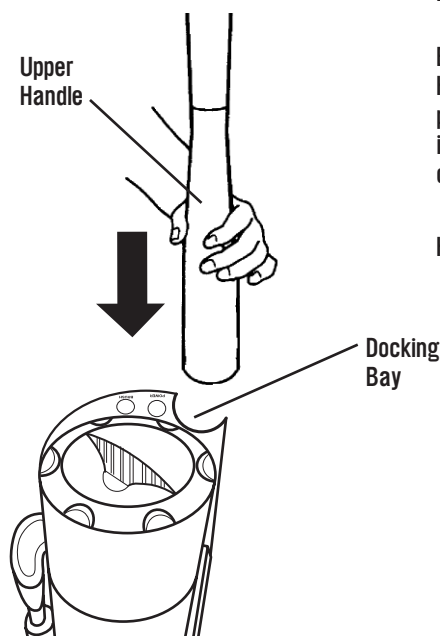

Figure 3a
2. Align the Handle over the top of the Docking Bay and slide it down so it fits inside the Docking Bay. It will snap-lock into place. (See Figure 3a.)